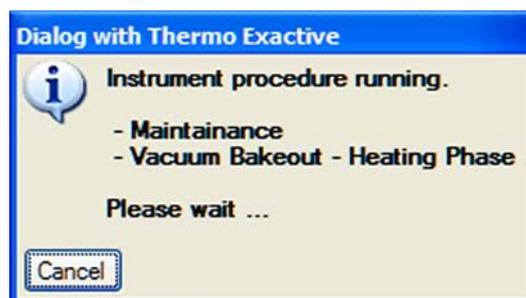

Figure 3-3. Message box: Vacuum Bakeout active
5. The message box disappears and the baking procedure starts. The instrument indicates the active bakeout procedure by a flashing Vacuum LED. (See Figure 1-3 on page 1-7.) Additionally, the Exactive Tune software displays a corresponding message box. See Figure 3-3.